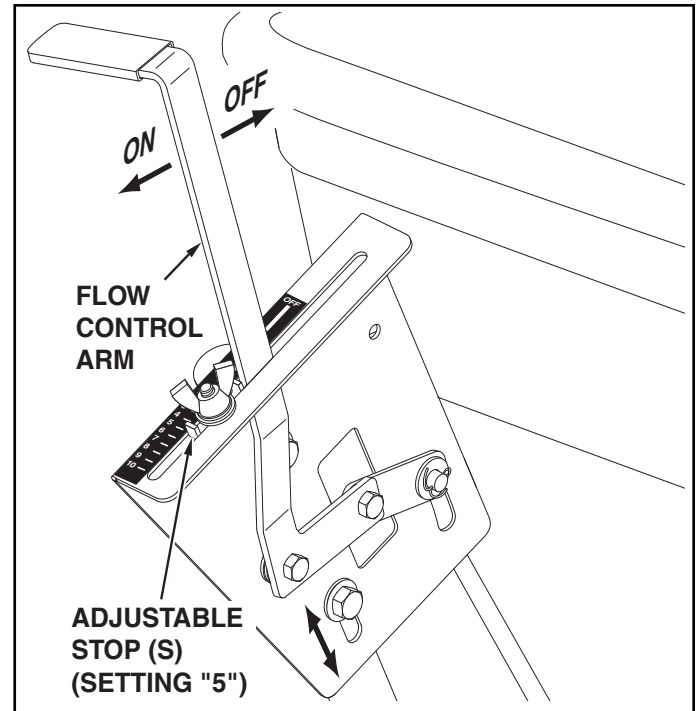

FIGURE 14
25. Position the flow control mounting bracket (figure 14).
### SETTING THE FLOW CONTROL (figure 14 on page 7.)